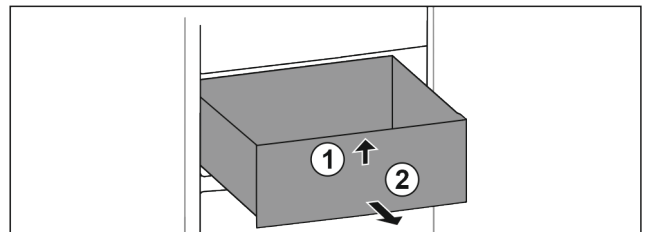

Fig. 120
- Lift up drawer at the front. Fig. 120 (1)
- Remove drawer to the front. Fig. 120 (2)